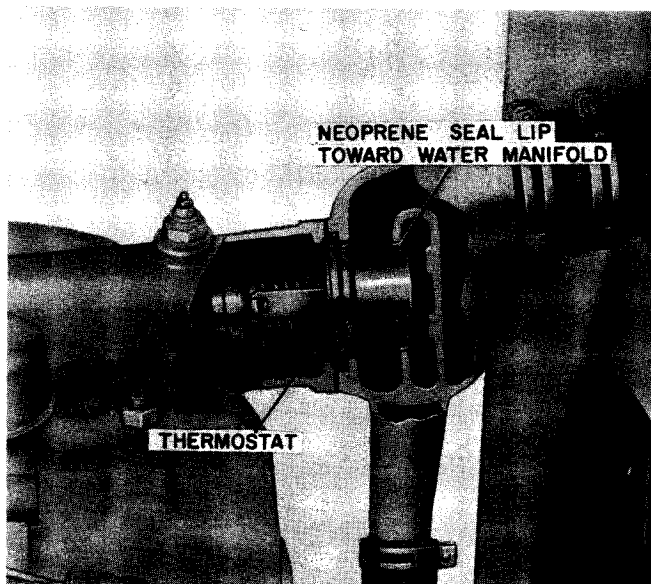

Figure 71
3. Remove the upper radiator hose and the by-pass hose; then remove the thermostat housing. The thermostat is located between the water manifold and the thermostat housing, Figure 71.
1. Install a new Genuine Case Thermostat (180° - 195° range), as indicated in Figure 71.